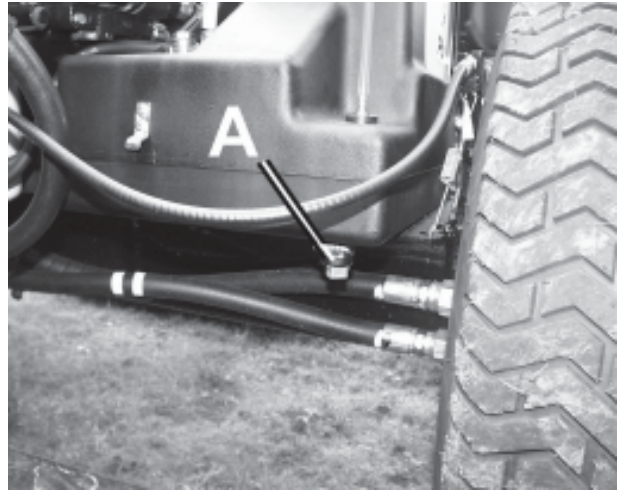

Fig4
1. Remove drain plug from bottom of Hydraulic tank and wipe off plug. (A(Fig.4))